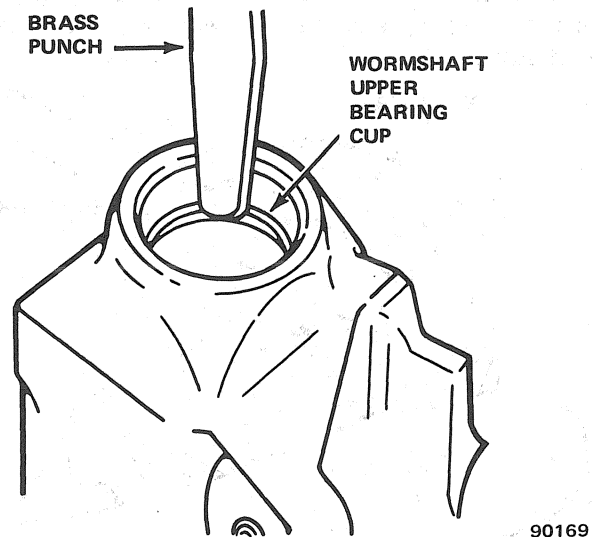

Fig. 2K-13 Removing Wormshaft Upper Bearing Cup
(2) Install replacement bearing cup using Installer J-5755 (fig. 2K-14).